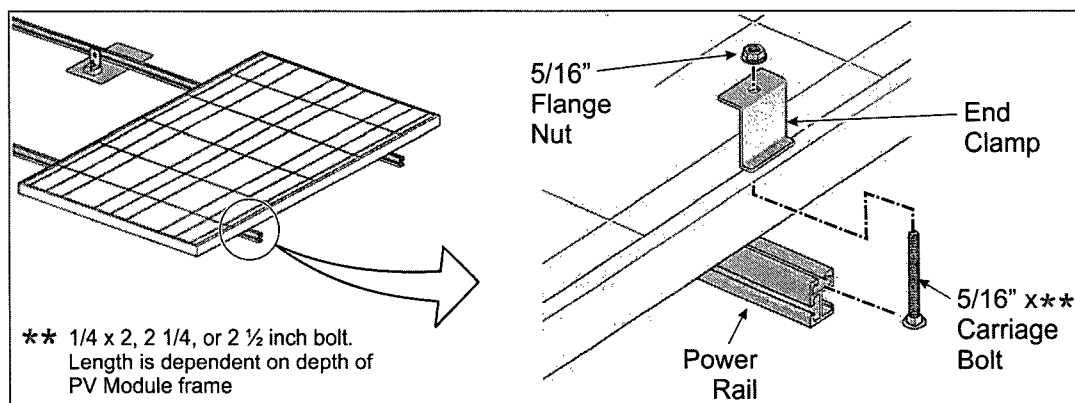

Figure 3-2: Installing PV Modules using Standard End-Clamp
- B2. For use with "**Standard End Clamps**". Insert one 5/16" x 2, 2 1/4 or 2 1/2" bolt into the top slot of the Power Rail. Push the bolt until flush with edge of module frame. Position end clamp with hole facing upwards and center hole over bolt. Seat end clamp over bolt flush with module frame. Thread 5/16" flange nut onto clamp and tighten. When desired alignment is obtained, tighten the nut and end clamp. **Torque End Clamps to 75-80 in.-lbs.** (figure 3-2)
B3. For use with “**RAD Hardware**” the process is much the same as in step B2 above, the difference is RAD bolts can be inserted anywhere along the run of Power Rail, not just the ends of the rail as shown in Figure 3-2 above.